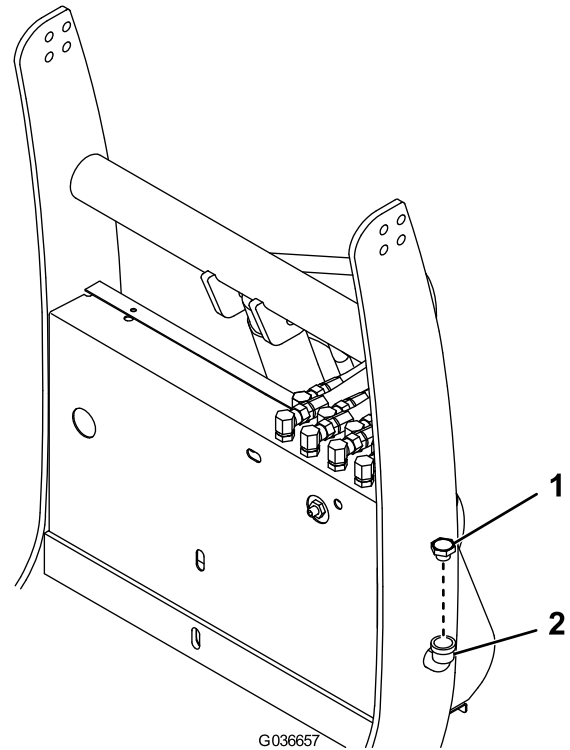

Figure 14
- Remove the fill cap from the hydraulic reservoir (Figure 14).